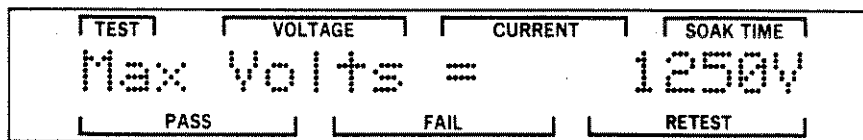

Figure 3-92. Maximum Voltage Screen
STEP 14. Press the UP or DOWN pushbutton until the Maximum Voltage screen is displayed. Figure 3-92 is an example of this screen.